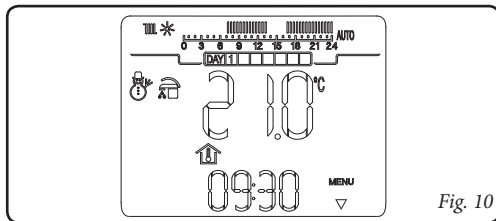

Fig. 10
- **Winter mode** (❄). In winter mode the boiler is enabled for producing domestic hot water and for central heating the environment. In winter mode the CAR^{v2} remote control can function in automatic or manual mode. For the description of functioning see chapter 6. The display shows the day and current time, the room temperature and the hour bar with the daily programming of the central heating timer along with the relative symbols (fig. 10).